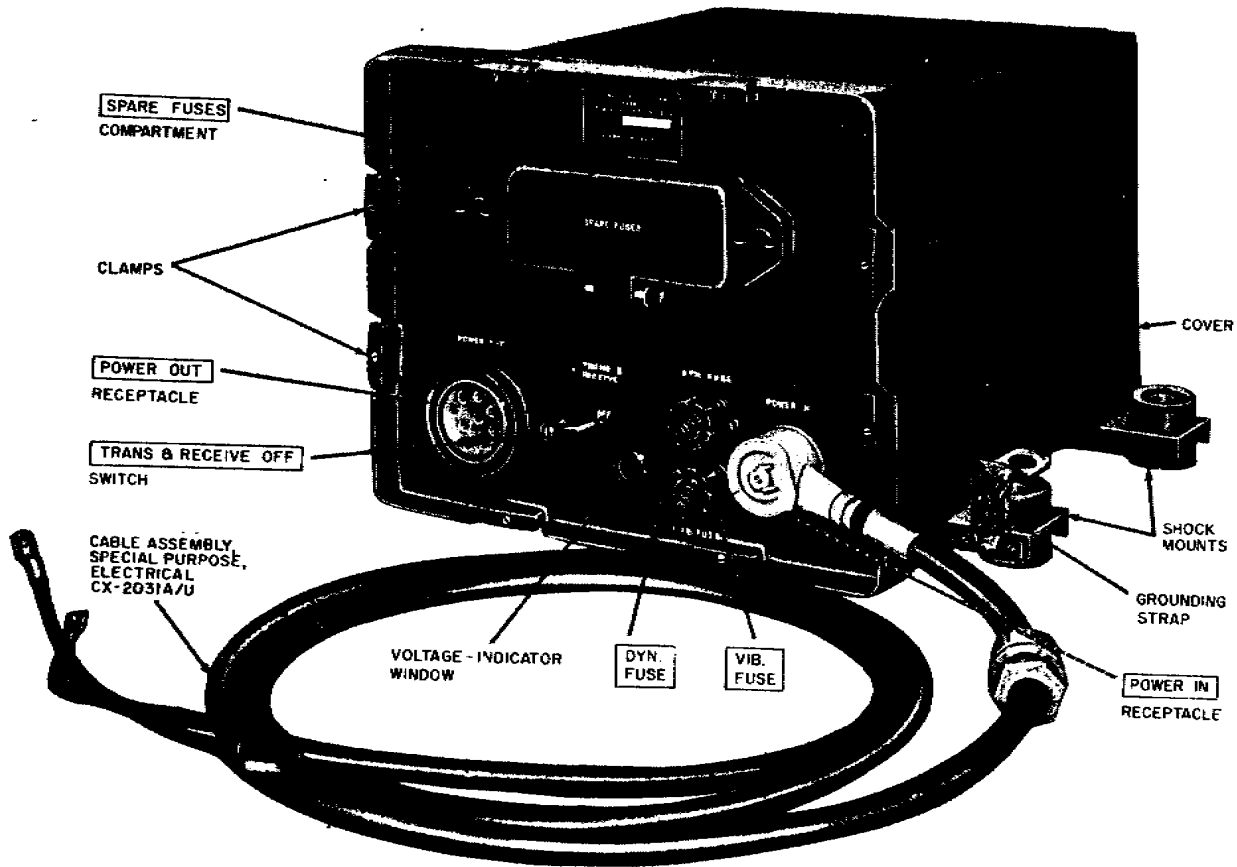

Figure 6. Dynamotor-Power Supply DY-88/GRC-9
- (1) Dynamotor-Power Supplies DY-88/GRC-9 and DY-105(*)/GRC-9 (fig. 6 and 7) are part of the AN/GRC-87 and the AN/VRC-34. They are mounted in reinforced waterproof covers equipped with shock-mounted fittings through which bolts can be passed for vehicular mounting.
- (2) Generator, Direct Current G-43/G (generator) consists of a generator unit, handcranks (GC-7), and a tripod (MT-1643/U). The generator unit is housed and shock-mounted